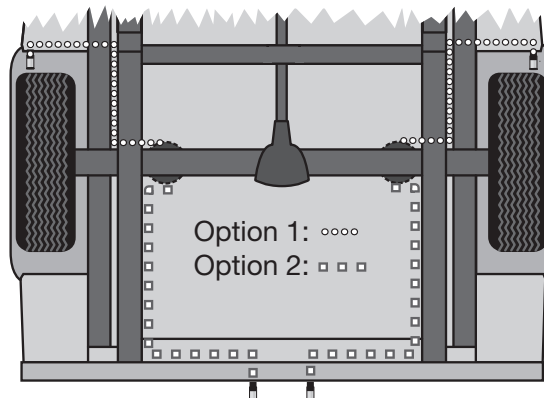

fig. 11
5. Place a 5/16" nut and star washer on the air valve. Leave enough of the inflation valve in front of the nut to extend through the hole and have room for the rubber washer, flat washer, and 5/16" nut and cap. There should be enough valve exposed after installation – approximately 1/2" – to easily apply a pressure gauge or an air chuck (Fig. 11).